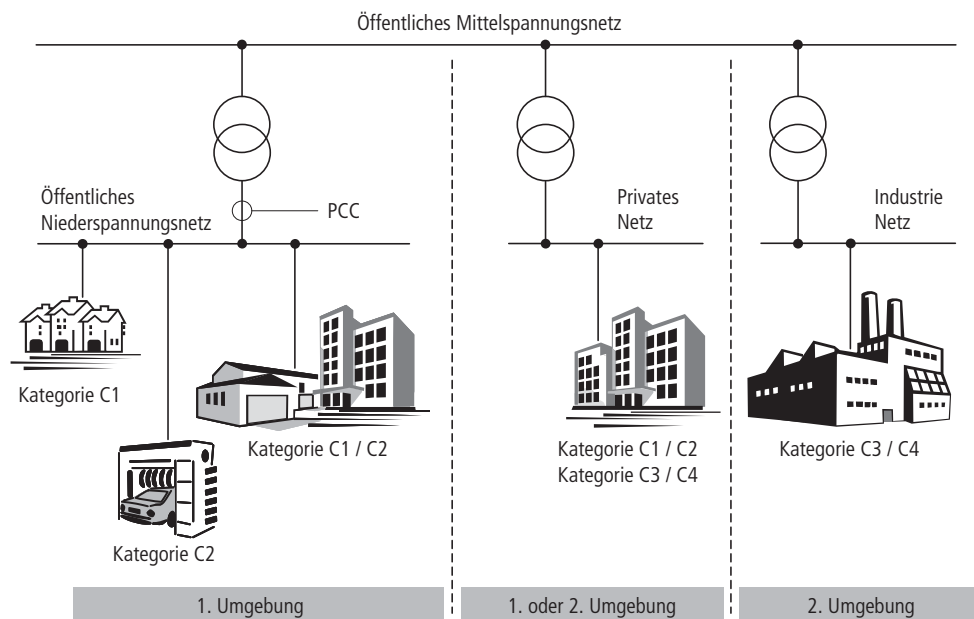

Figure 10: EMC environment and category
A DC choke in the DC link of the frequency inverter enables the THD value to be reduced to around 40 %. This complex and costly solution is required for frequency inverters with a rated input current that exceeds 16 A in a single phase, and is up to 75 A per phase, and which is intended for connection to public low-voltage AC supply systems (IEC/EN 61000-3-12). The PCC (Point of Common Coupling) in the public low-voltage supply network (→ Figure 10, page 36) is the measuring point for the total harmonic distortion (THD).
A declaration of conformity (CE) refers always to a "typical" magnet system (PDS). The responsibility to comply with the legally stipulated limit values and thus the provision of electromagnetic compatibility is ultimately the responsibility of the end user or system operator. This operator must also take measures to minimize or remove emission in the environment concerned (→ Figure 10). He must also utilize means to increase the interference immunity of the devices of the system.